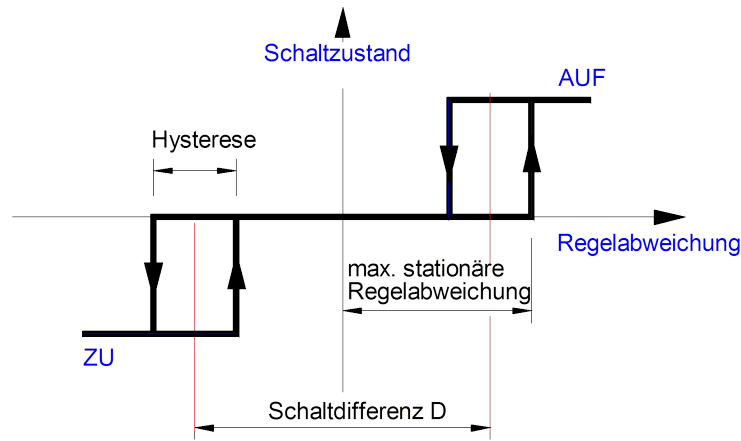

Figure 4: switch points of the 3-point controller
**Switching difference D:** The switching difference (Figure 4). The more precise the actuator is to be positioned, the smaller the switching difference must be. If the switching difference is too small, the actuator will start to oscillate. In case of actuator oscillation, the switching difference must be increased. This is achieved by turning potentiometer D in a counter-clockwise direction.